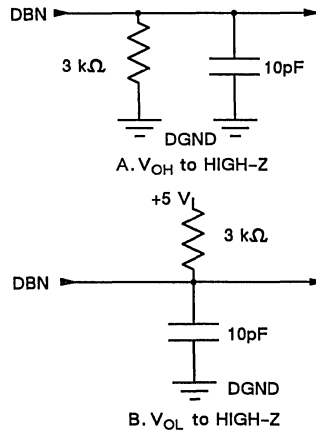

Figure 2. Load Circuits for Data Hold Time Test
- Defined as the time required for the data lines to change 0.5 V when loaded with the circuits of Figure 2.